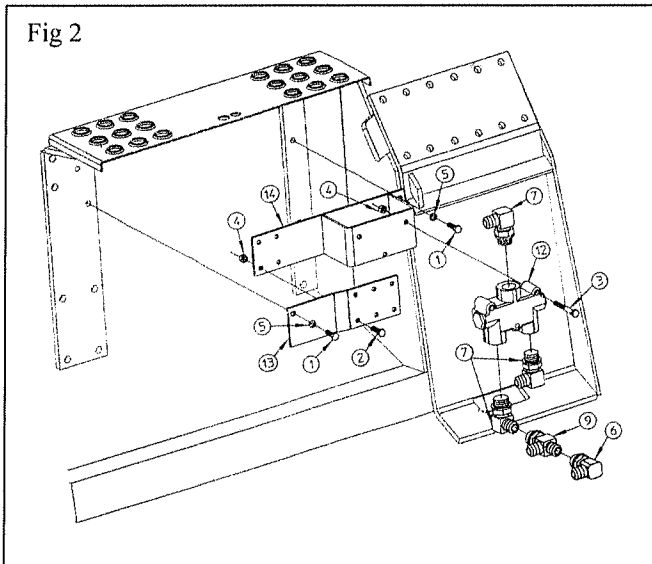

Fig 2
1. Assemble Flow Divider Valve Base Weldment (14) to Extension Plate (13) using four 5/16" NF x 1" bolts (2), and four Locknuts (4). See Figure 2.
2. Install Flow Divider Valve assembly to skid steer adapter weldment using two 5/16" NF x 5/8" bolts (1), and two Lockwashers (5). See Figure 2.